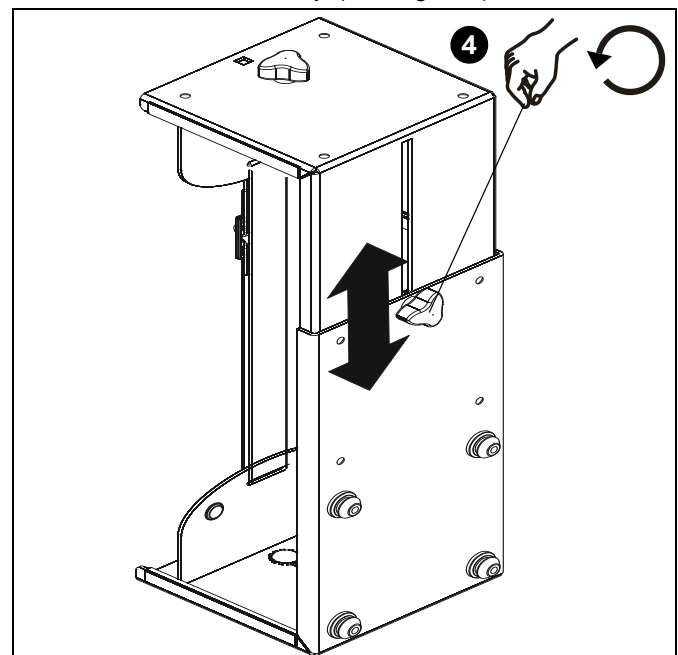

Figure 4
4. Loosen adjustment knob at the back of the mounting unit and adjust height of mount to a height greater than the height of the CPU to be installed. Loosen strap at the front of the mount if necessary. (See Figure 4)